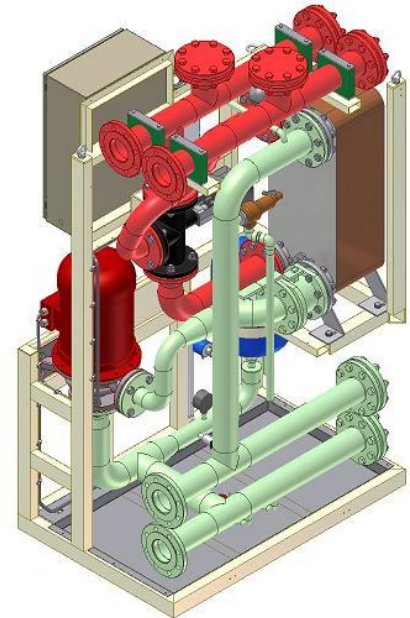

Figure 4.2-1
- Primary circuit, HXL300-PS01 (green colour in the Figure 4.2-1)
- Secondary circuit, HXL300-PS02 (red colour in the Figure 4.2-1)